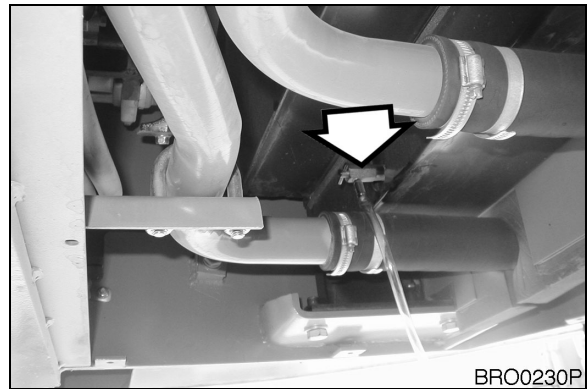

Figure 73
2. Place a container under the radiator and open the drain valve (Figure 73).